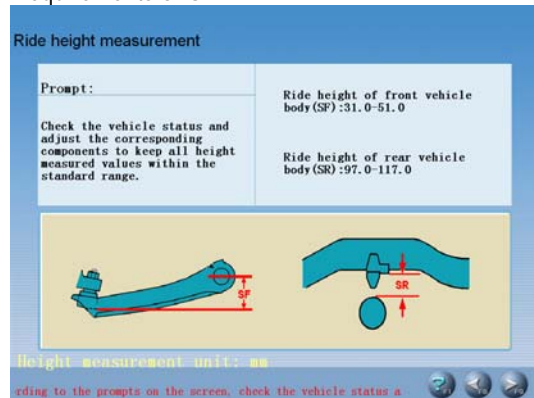

Fig.4.9
- When some special vehicle models (such as BMW 3 series) are selected, the screen will pop up an interface of [Ride Height Measurement] as shown in Fig.4.9. This interface provides an operating platform for ride height measurement system, in order to check if the ride height meets the design requirements of OEM.